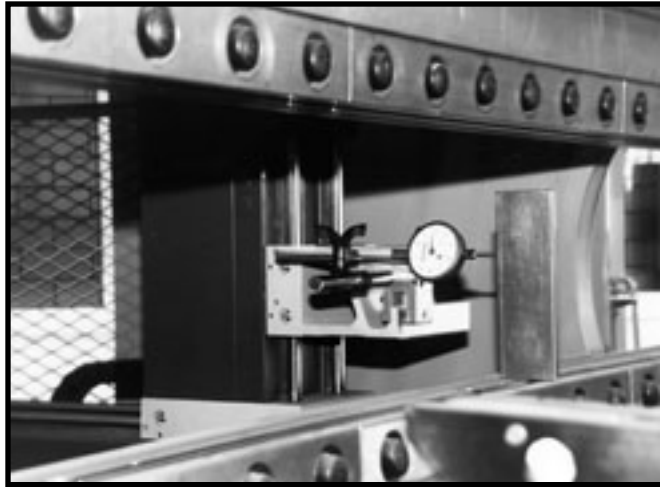

FIGURE 9-29 R-axis travel up and down
3. R-axis travel should be perpendicular to the bed top within .002" (.051mm) over 8" (203.2mm) of travel as shown in Figure 9-29.